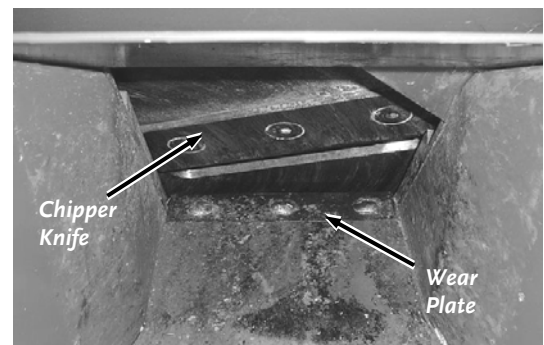

Figure 29
4. Closely inspect the Chipper Knife and Wear Plate for nicks or dull (rounded) edges (**Figure 29**).